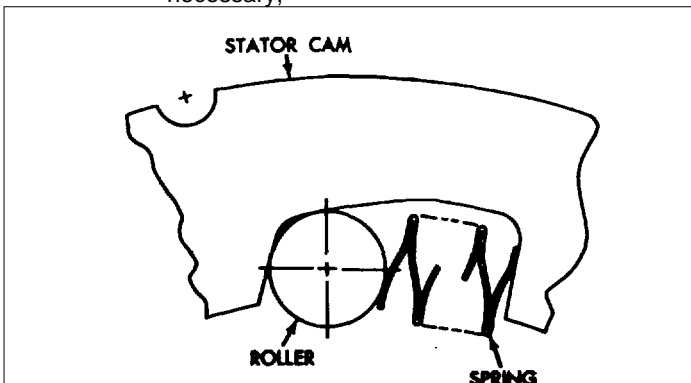

Fig. 22
- (b) Install the springs in the deep end of the stator pocket, with the end of the spring contacting the roller toward the bore of the stator.(Fig. 22).